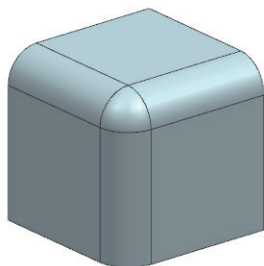

Fig 6-11 Edge Blend Created
7. Press **OK** in the dialog box. A 20mm radius edge blend is applied on the three tangent connected edges as shown in Fig 6-11.